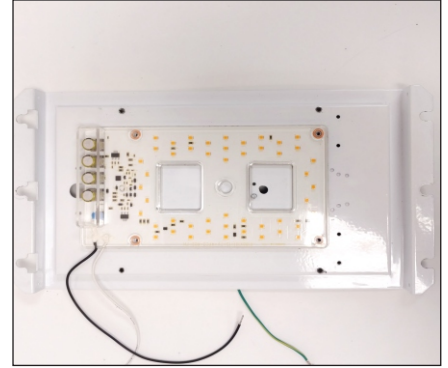

Figure 2
2. Center the DirectAC Engine (A) in the luminaire as shown in figure 2.